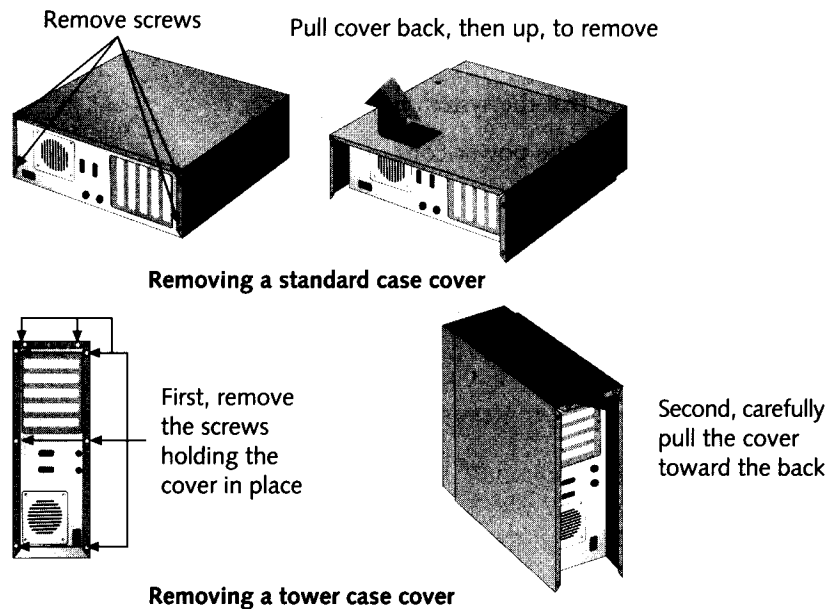

Figure 3-3 Removing the cover
4. Remove the case from your lab workstation, as shown in Figure 3-3.